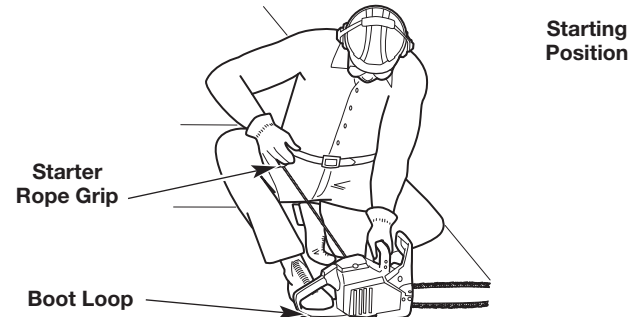

Fig. 5
WARNING: Avoid accidentally starting the unit. To avoid serious injury, the operator and the unit must be in a stable position when pulling the starter rope (Fig. 5).
5. Crouch in the starting position (Fig. 5). Hold the front handle with the left hand. Hold the starter rope grip with the right hand. Insert the right foot into the boot loop to help hold the unit firmly in place.
6. Pull the starter rope with a controlled and steady motion **5 times** (Fig. 5).